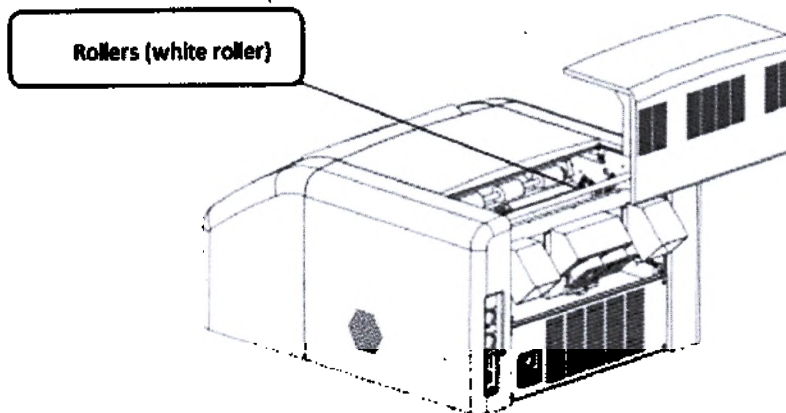

Figure 31 – Roller placement
- Clean the rollers (Figure 31).